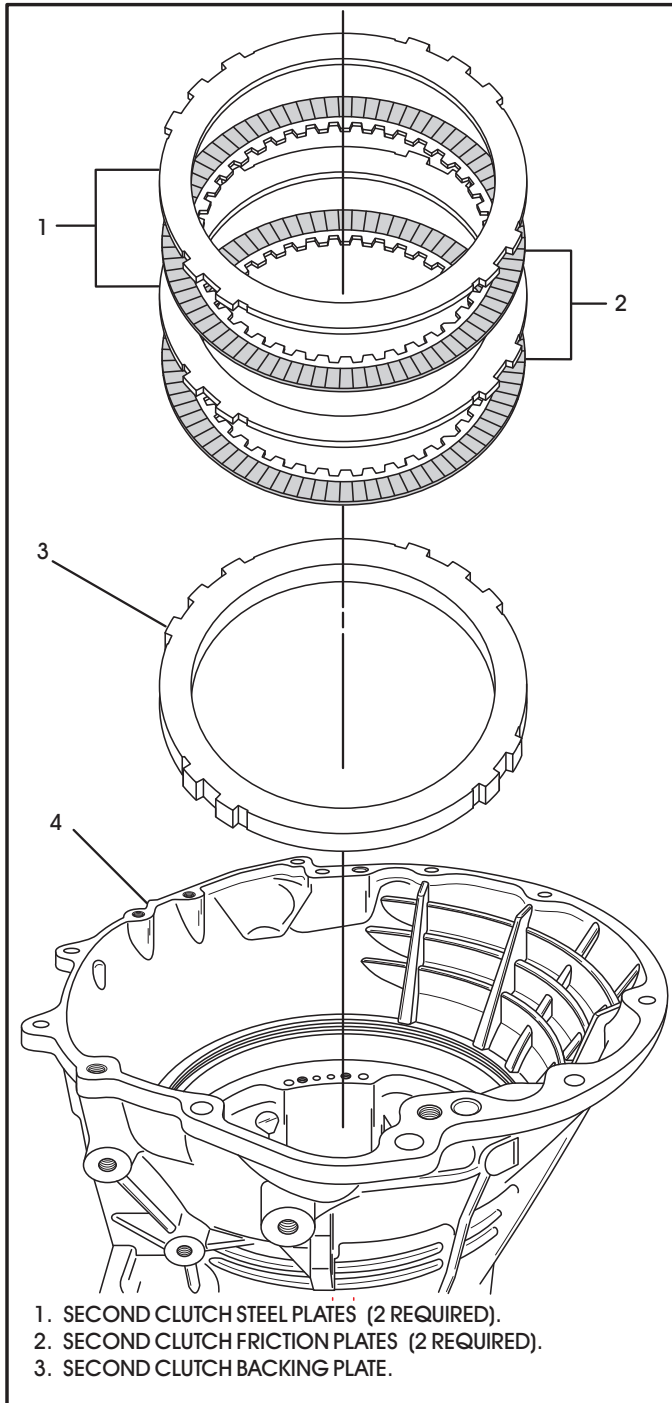

Figure 117
30. Install the 2nd clutch backing plate into case as shown in Figure 117.
31. Install the 2nd clutch pack into case beginning with a lined plate and alternating with steels until you have installed 2 lined & 2 steel plates as shown n Figure 117.